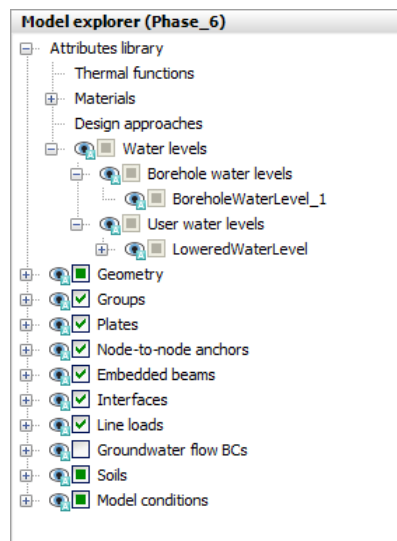

Figure 7-13: Water levels in the Model explorer
- 8 In the **Model explorer** expand the **User water levels** subtree. Click on **UserWaterLevel_1** and type LoweredWaterLevel to rename the water level created in the **Flow conditions** mode as shown in Figure 7-13 \(p. 133\).